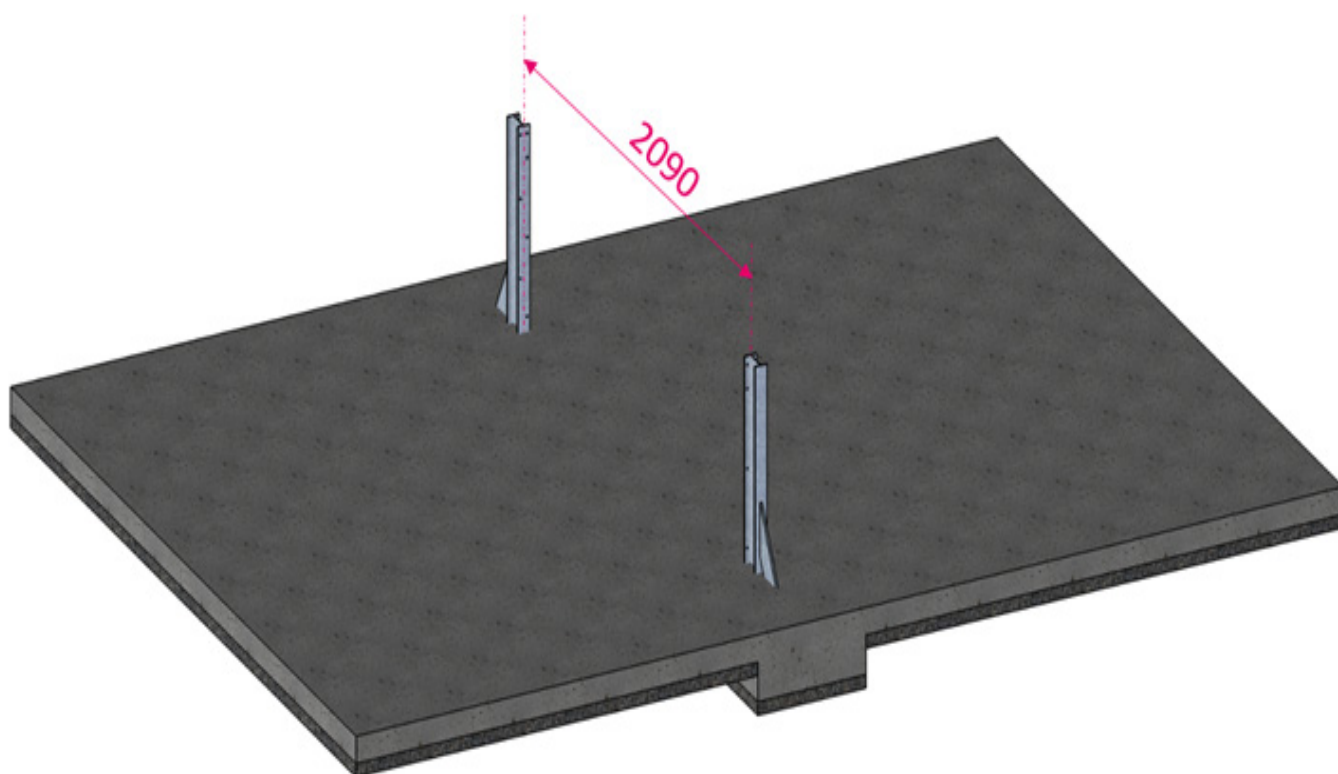

Figure 3 – Location of the supporting braces
TIP: You can use the supporting braces to visualise how high the concrete slab should be once it has been poured. To do this, taking the top of the pool wall, below the coping, as level 0 (underneath the coping, see *Figure 3*), measure 0.755 m and mark this distance on the front of the supporting brace. This mark will correspond to the height of the finished concrete slab.
- ❗ Check that all the dimensions quoted in *Figure 3* are correct before proceeding with the next step.